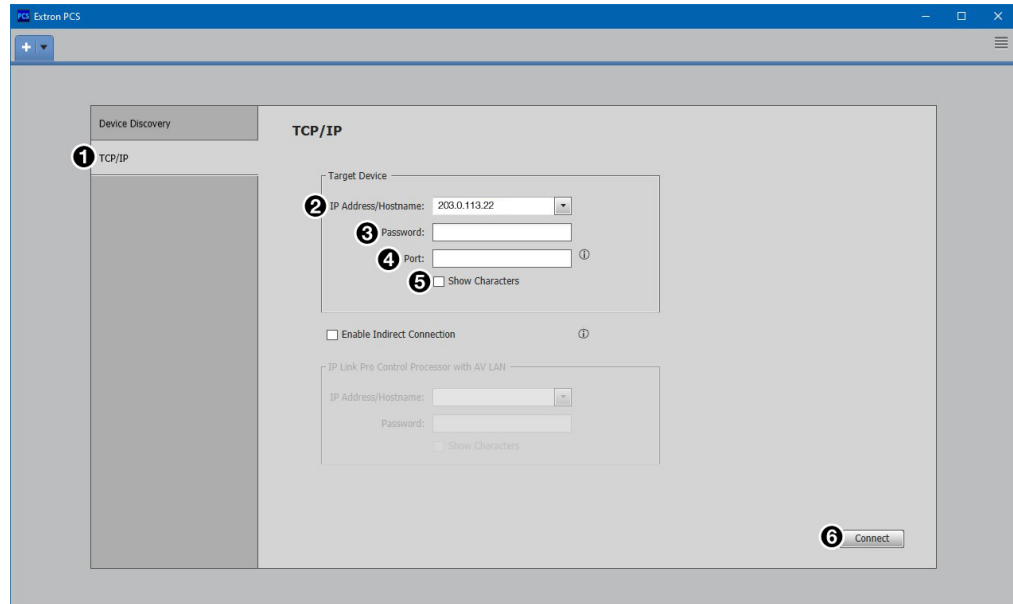

Figure 16. Comm Port Selection Windows
1. From the Configuration File drop-down list, select **New Configuration File** (see figure 16).